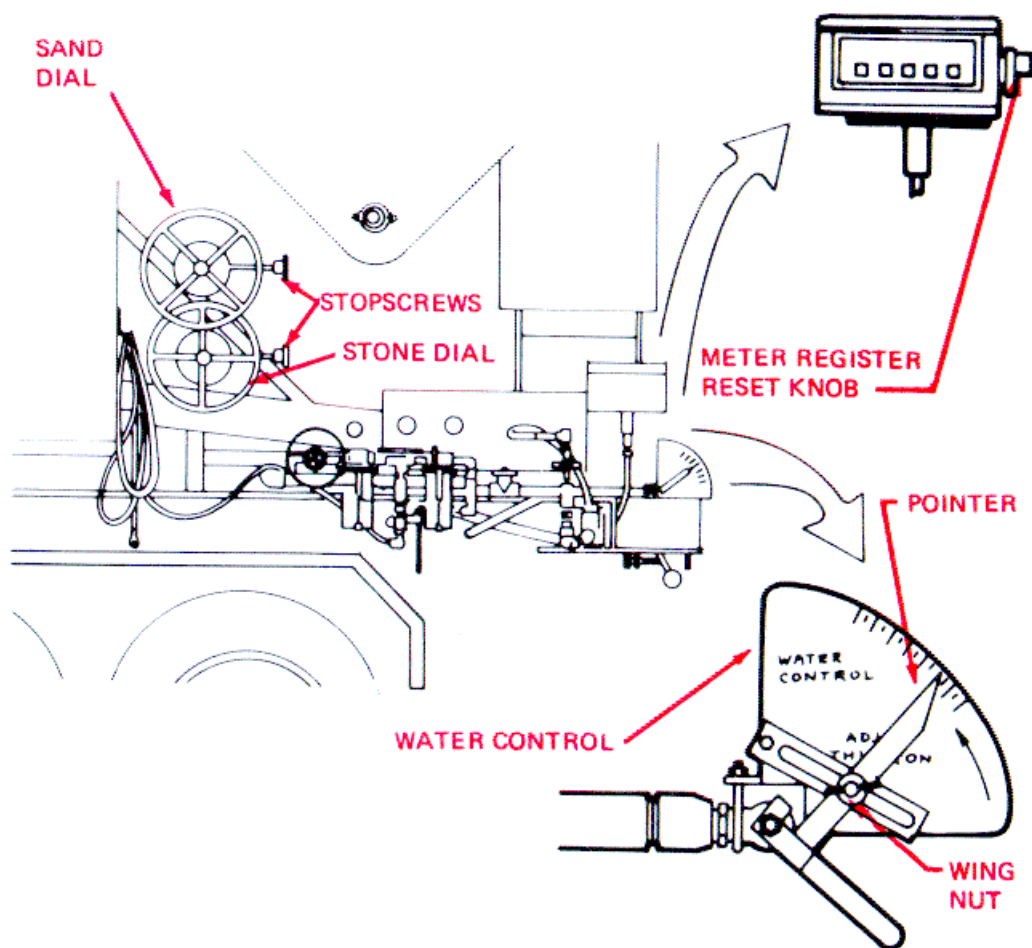

Figure 2-35. Main Ingredients Controls.
c. Set Water Control. (See fig. 2-35)
- (1) Loosen the wingnut on the pointer.
- (2) Set the pointer to the setting you have been given. Always adjust the pointer upwards and then bring pointer back down to new setting. If you are moving from a higher setting to a lower one, move the pointer below the new setting, then back up into place.
- (3) Tighten the wingnut.
- e. Set Sand Dial. (See fig. 2-35).
- (1) Loosen the sand dial stopscrew.
- (2) Turn the handwheel until the pointer shows the sand dial setting you have been given. Always adjust the pointer upwards. If you are moving from a higher setting to a lower one, move the pointer below the new setting. Then back up into place.
- (3) Tighten the stopscrew.
- f. Set Stone Dial. (See fig. 2-35).
- (1) Loosen the stone dial stopscrew.
- g. Set Meter Register to Zero. (See fig. 2-35.)
- (2) With sand and stone dials properly set, start the mixer and produce concrete until all systems are full and mixed concrete is being discharged at a full rate from the mix conveyor. Then stop the equipment with all concrete systems full.
- (3) Place quarter yard box on a level surface
- (4) Set cement meter to zero (para 2-11 g, fig. 2-35).